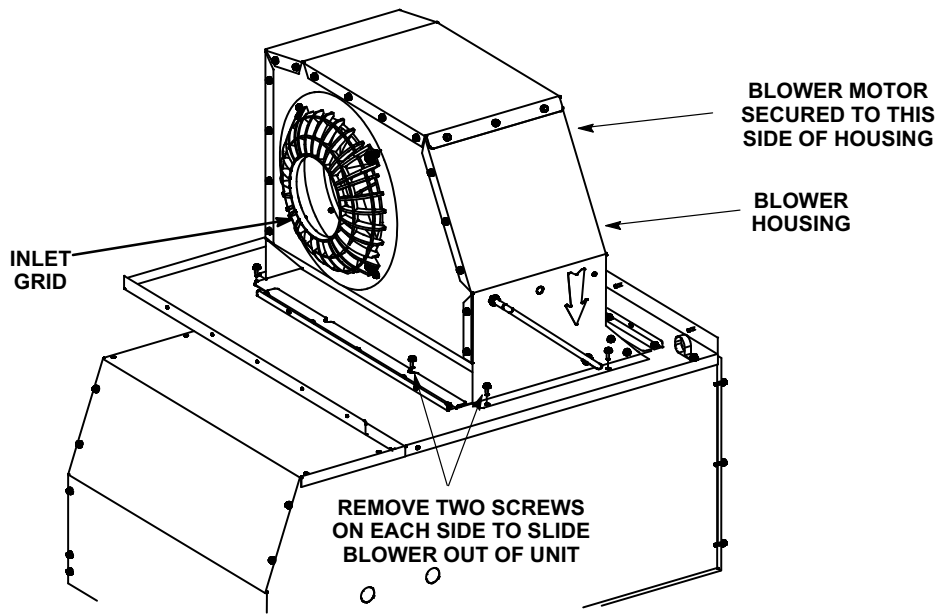
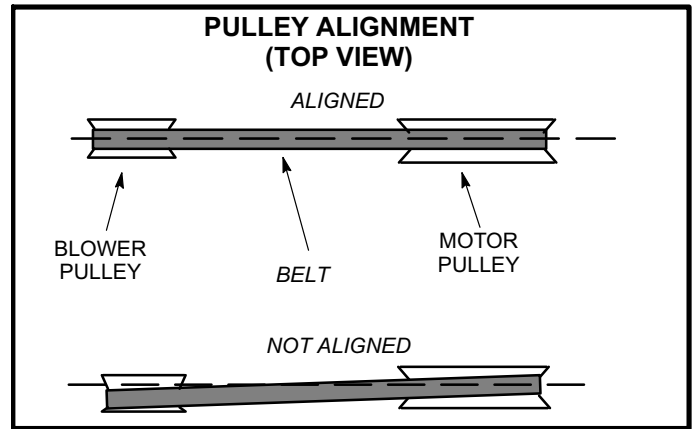

FIGURE 21
FIGURE 25
- 4- The blower RPM can be adjusted at the motor pulley. Loosen Allen screw and turn adjustable pulley clockwise to increase CFM. Turn counterclockwise to decrease CFM. See figure 21, 22, or 23. Do not exceed minimum and maximum number of pulley turns as shown in table 2.
Maximum life and wear can be obtained from belts only if proper pulley alignment and belt tension are maintained. Tension new belt after a 24-48 hour period of operation. This will allow belt to stretch and seat to grooves. Make sure blower and motor pulley are aligned as shown in figure 25. See figure 21, 22 or 23 to adjust belt tension.